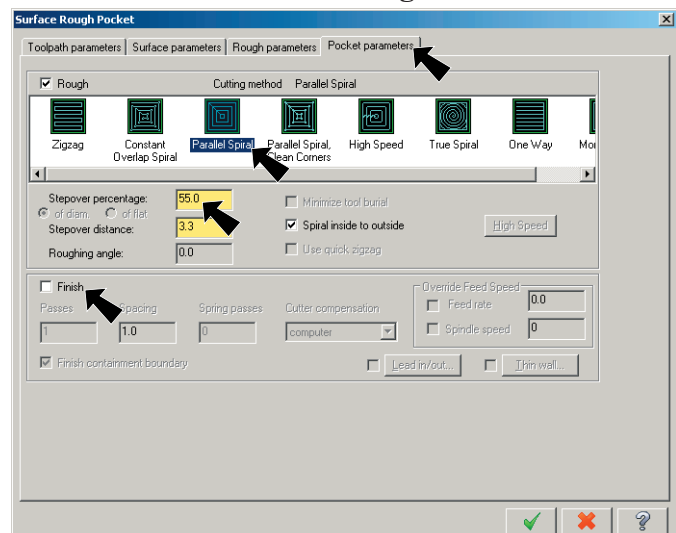

Fig. 35
Step 21. Click the **Pocket parameters tab** at the top of the dialog box, **Fig. 35.**
Step 22. Set **Cutting method: Parallel Spiral** **Fig. 35**